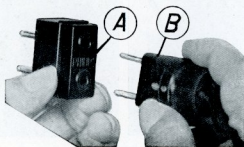

Fig. 8
When using an electro-magnetic or a moving coil speaker with input transformer (not advisable however, see "Loudspeaker"), connected to L1, the tone filter must be inserted between loudspeaker and receiving set. The tone filter (A) is placed on the loudspeaker plug (B) (see fig. 8) and subsequently connected to L1.